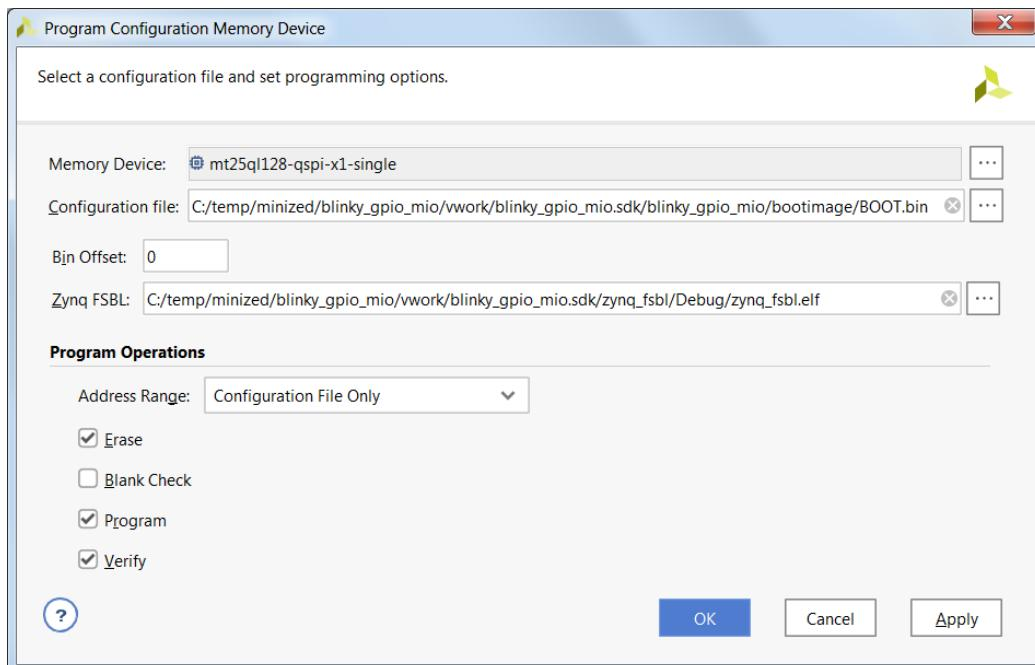

Figure 11: PS GPIO MIO design Program Configuration Memory Device window.
- Figure 11 shows the configuration window after the files have been selected.